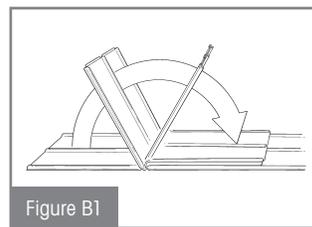
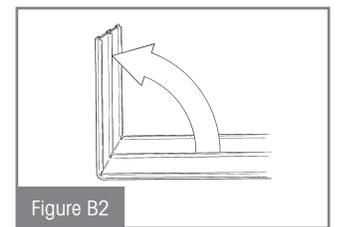

Figure B1
Figure B2
3. At the notch, bend the return at one end of the valance all the way over to crease (See Figure B1) and then back halfway to form a 90° angle. (See Figure B2)